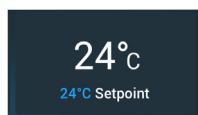

Figure 3–21: Temperature Box on Home Screen
1. Tap the **temperature box** on the “Home” screen, shown in Figure 3–21 below.